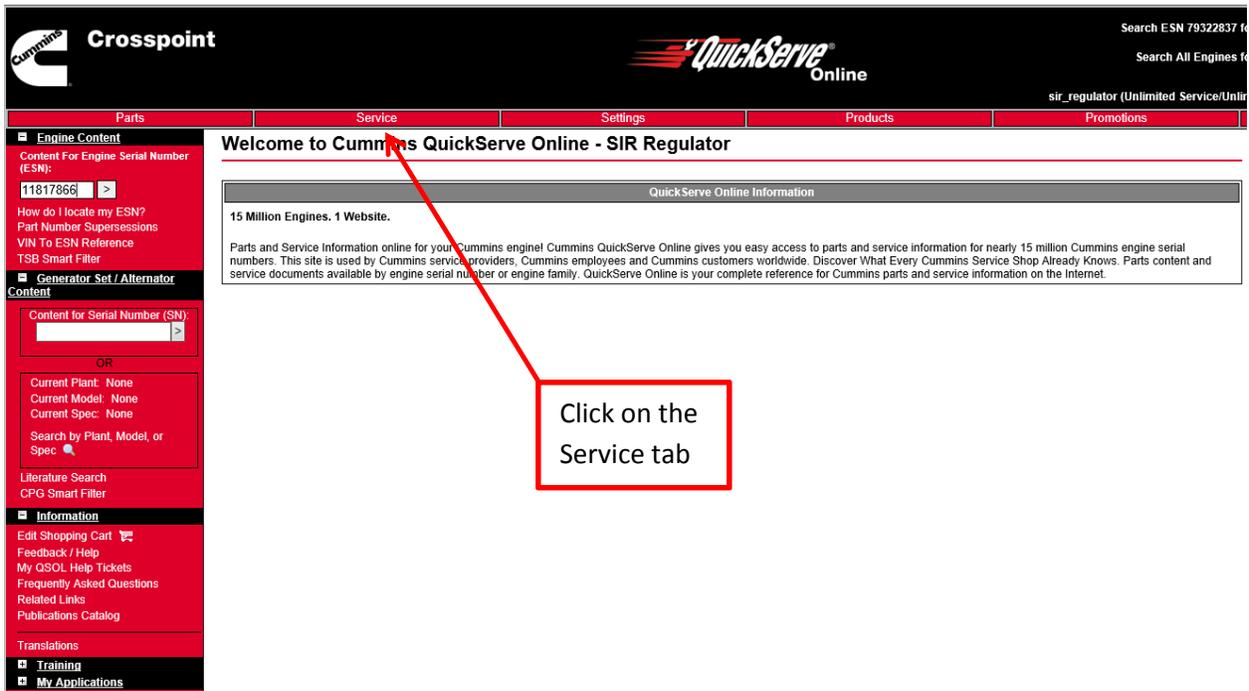

Figure 3
2. Click on the Service tab (Figure 3).